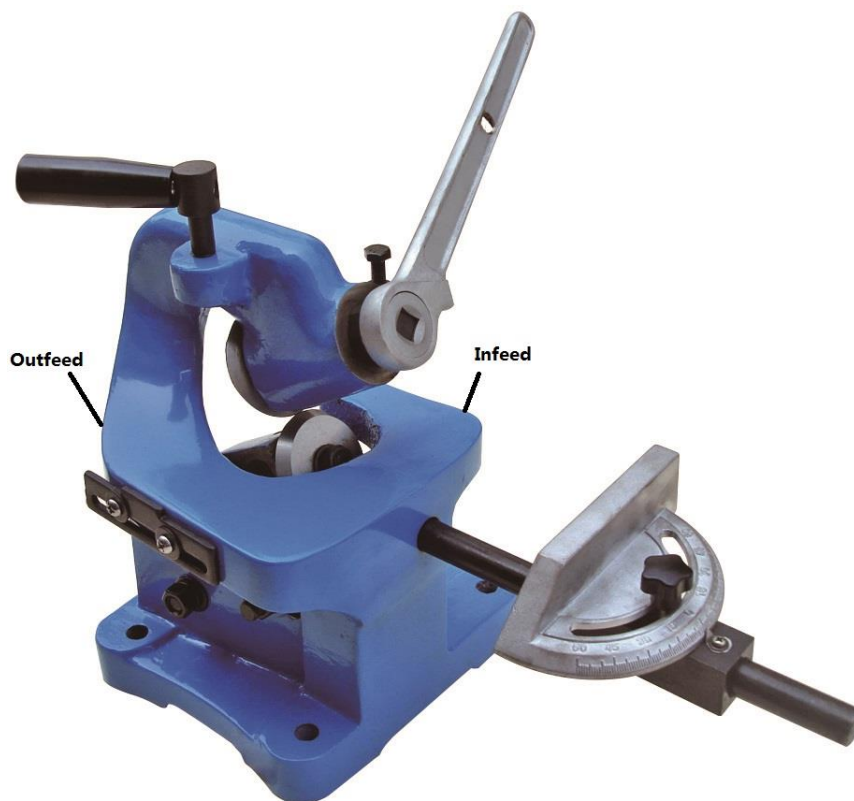

Figure 1
2. Place workpiece on infeed side of shear body (see Figure 1) and align cut line with blades.